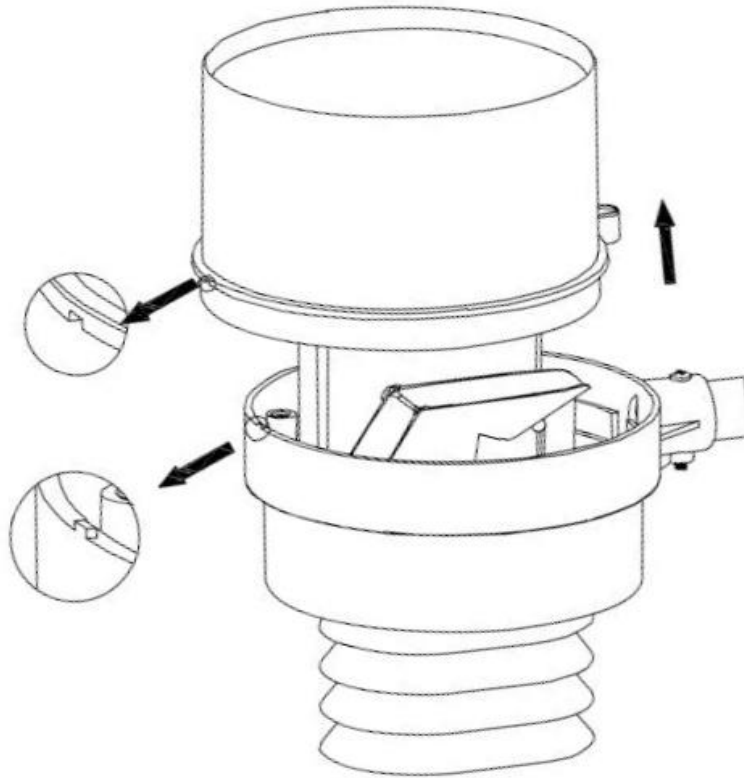

Figure 36
2. Pull the rain gauge funnel from the assembly as shown in Figure 36.